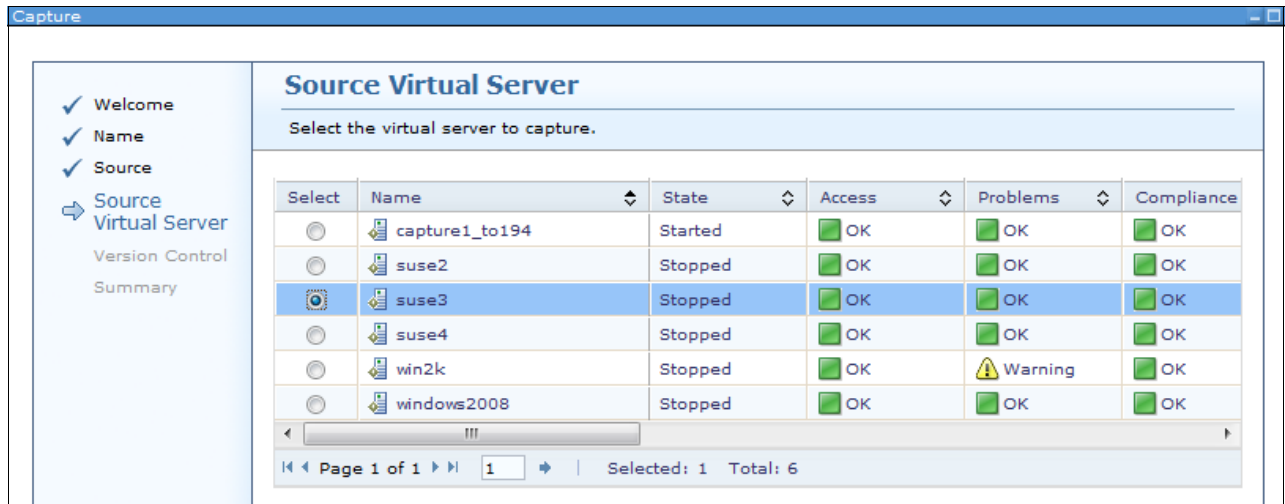

Figure 3-82 VMControl Capture wizard: Source Virtual Server
15. In the Source Virtual Server window, choose the migration source server, as shown in Figure 3-82.